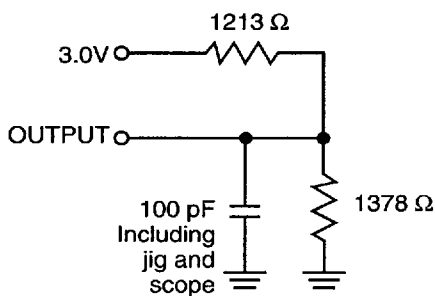

Figure 1a.
1. Test conditions assume signal transition times of 5 ns or less, timing reference levels of 1.5V, input pulse levels of 0.4V to 2.2V and output loading specified in Figure 1a.
Output Load	See Figures 1a and 1b